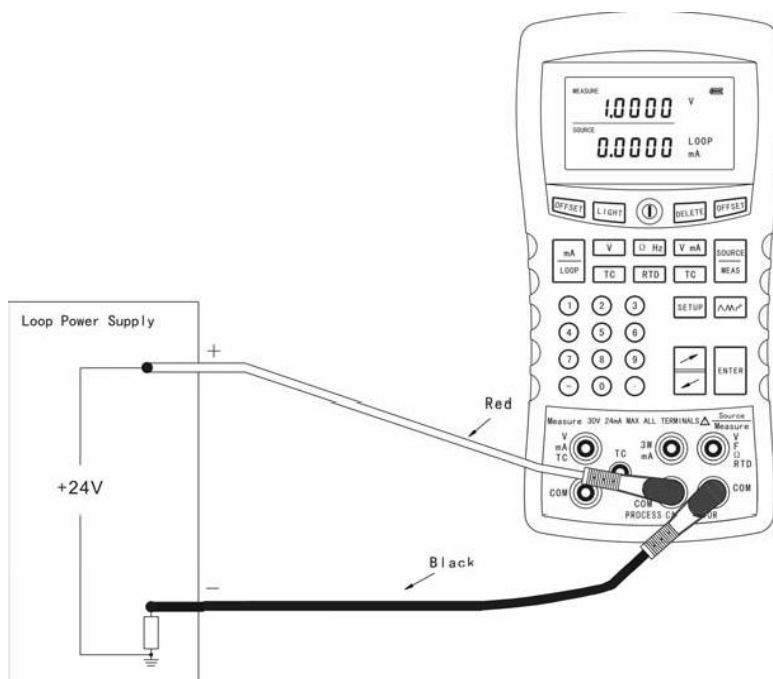

Figure6-7 Connections for Simulating a Transmitter
- Connect an external loop power supply as shown in Figure6-7.